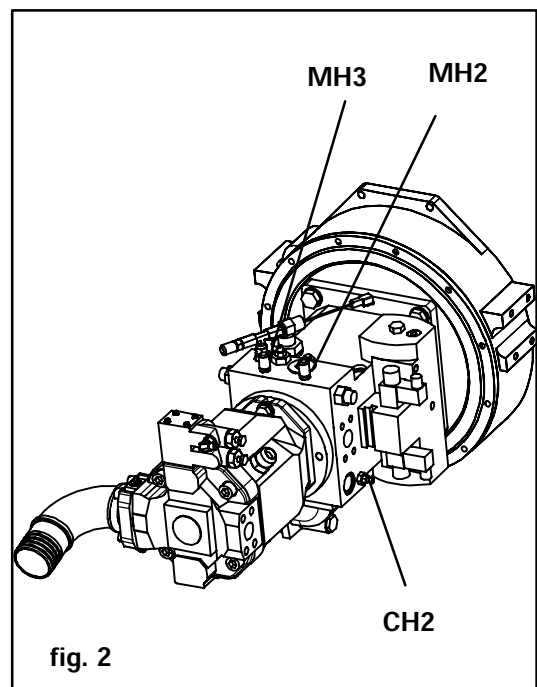

fig. 2
- Connect a 6,0 MPa (870 psi) pressure gauge to pressure measuring point MH1 (fig. 2). When the engine RPM is 1600, the pressure should be 2.8 ... 3.2 MPa (406 ... 464 psi).